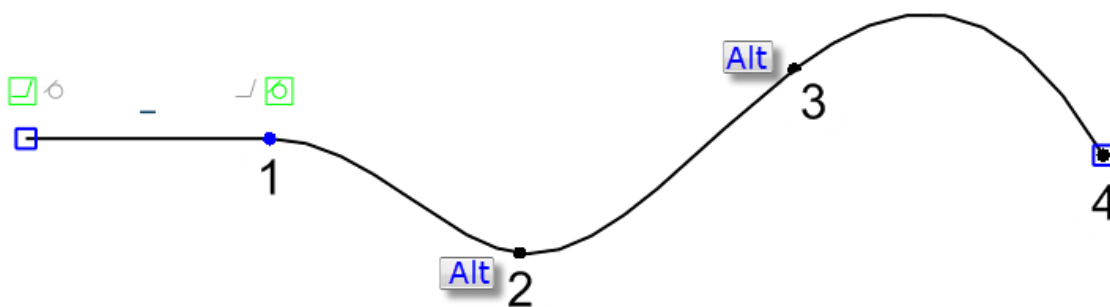

Figure 36 Create a Curve Through Points with Quick Draw
**STEP 03** Middle-click when you want to terminate Quick Draw. See the Figure 36.